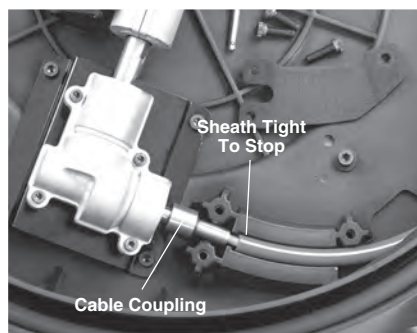

Figure 15 – Changing the Cable Assembly
7. Reverse process to assemble, securely attaching all fasteners. Ensure sheath is tight to the stop in the drum cable slot to minimize exposed cable (see Figure 15).